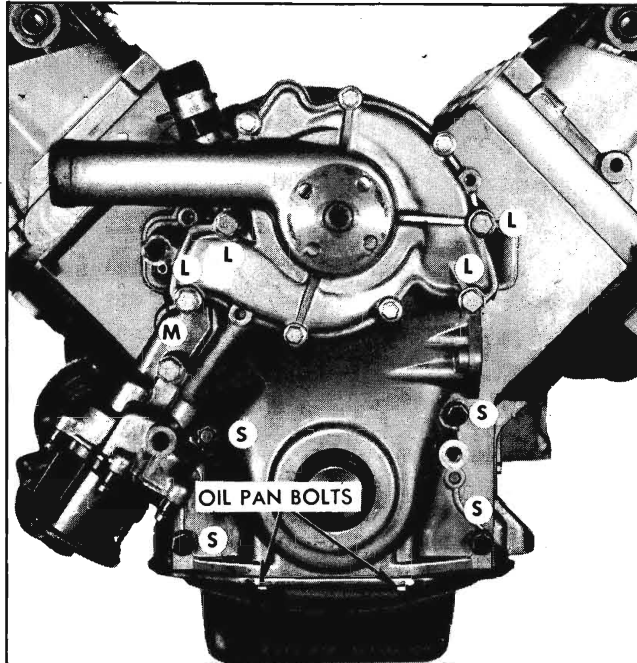

Fig. 6-96 Timing Chain Cover Bolt Location
12. Remove bolts attaching timing chain cover to cylinder block. Remove two oil pan to timing chain cover bolts. See Fig. 6-96. Remove timing chain cover and gasket. Thoroughly clean cover, taking care to avoid damage to gasket surfaces.
Position timing chain cover against block and be certain dowel pins engage dowel holes before starting bolts. Lubricate bolt threads and install as shown in Fig. 6-96. Torque 20-25 lb. ft.